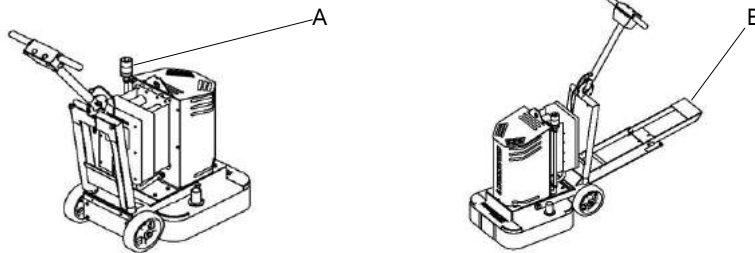

Fig 1
1. Unplug the power cord from the twist lock plug (A). Ensure the handle is in its full upright position (Fig 1). Tilt the equipment back by releasing and unfolding the step down plate (B). While stepping on the step down plate, pull down on the handle.
2. Slowly lift the equipment back to the upright position by using the step down plate (B) to prevent the COLOSSOS XT from hitting the floor.
3. Fold up and secure the step down plate (B); replace the pin.